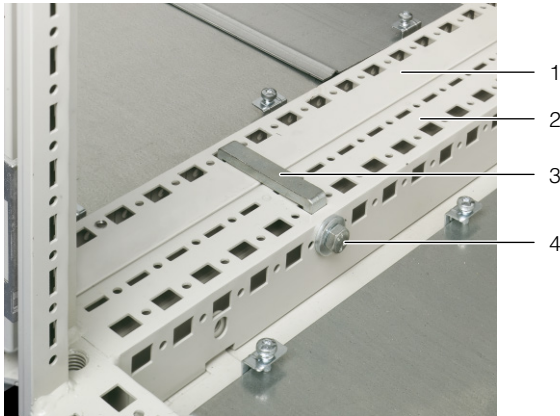

Fig. 28: Baying clamp
- In the front section, push out a baying clamp (Fig. 28, item 3) from the server enclosure (Fig. 28, item 2) through the corresponding notch in the side panel of the LCP Inline (Fig. 28, item 1).
- From the server enclosure, tighten the baying clamp (Fig. 28, item 4), so that the frames of the server enclosure and LCP Inline are firmly connected to one another.